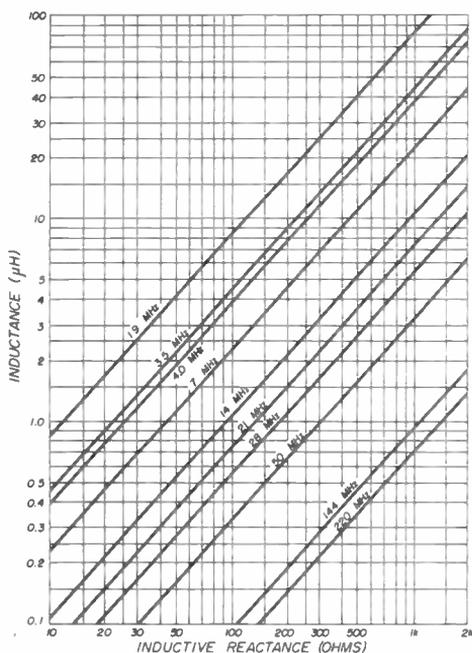

fig. 20. Reactance of inductors commonly used in the amateur bands from 1.9 to 220 MHz.
8. Determine the capacitance and inductance values for the pi network. Fig. 20 and 21 show reactance values of inductors and capacitors commonly used in rf circuits in the hf amateur bands. For the reactances determined for the 3-400Z tubes, the circuit components may easily be determined for each amateur band. In the case of the 20-meter band, for example, the values are: tuning capacitor (C1) = 100 ohms = 113 pF; loading capacitor (C2) = 20 ohms = 565 pF; pi network coil (L1) = 120 ohms = 1.36 μH.
9. Determine the values of the capacitance and inductance for the components of the pi-L network. Fig. 20 and 21 show reactance values for inductors and capacitors in the range commonly used for rf circuitry in the high-frequency amateur bands. For the reactance values determined for the 3-1000Z tube, the circuit components may be easily determined for each amateur band. In the case of the 80-meter band, for example, the values are: tuning capacitor (C1) = 150 ohms = 275 pF; leading capacitor (C2) = 47 ohms = 900 pF; pi network coil (L1) = 215 ohms = 9 μH; L network coil (L2) = 140 ohms = 6.5 μH.